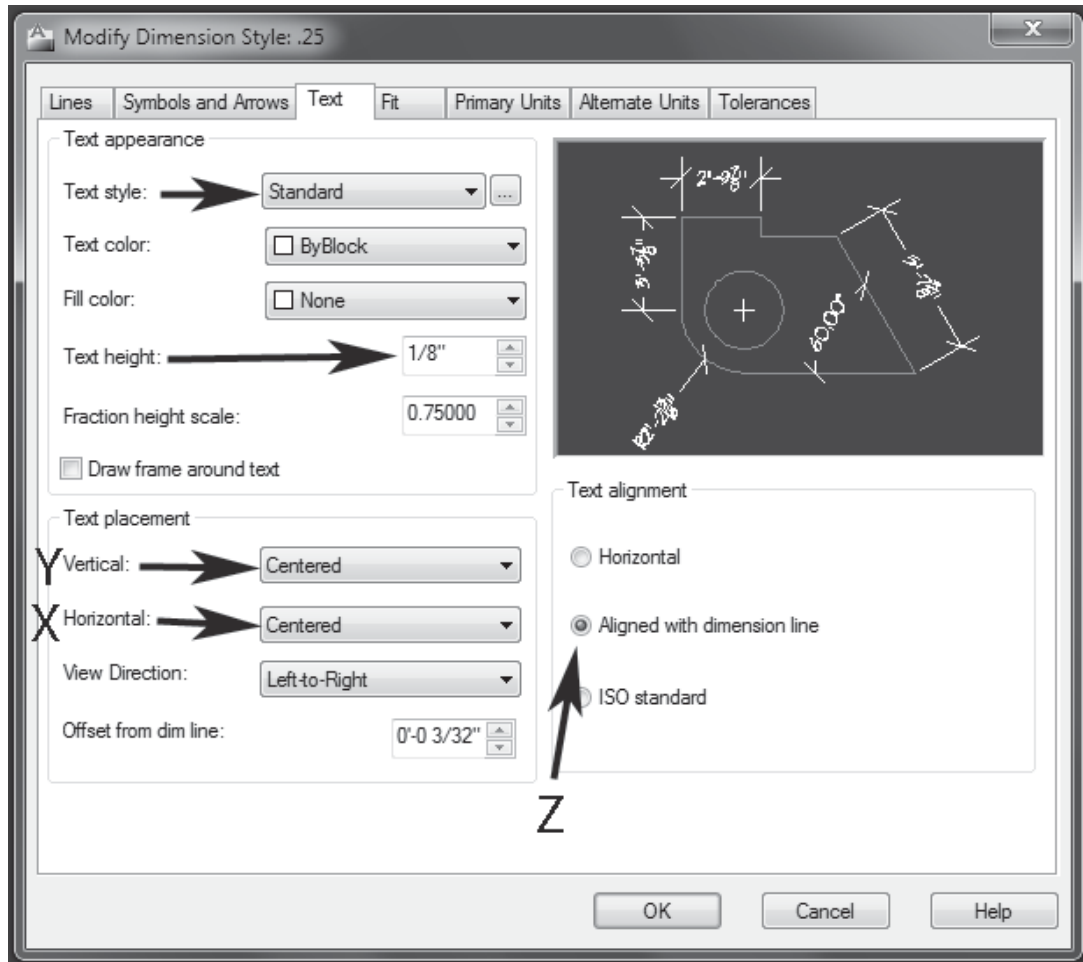

Fig 1-62
Click on the **Text** tab at the top of the box (Fig 1-62). Make certain that **Standard** appears in the **Text Style** window. Set the **Text height** to **1/8"**. Then below in the **Text Placement** box open the **Horizontal** drop down menu (X in Fig 1-62) and click on **Centered**. In the **Vertical** box (Y) select **Centered**. Turn on the button for: **Aligned with dimension line** (Z). Click **OK**.